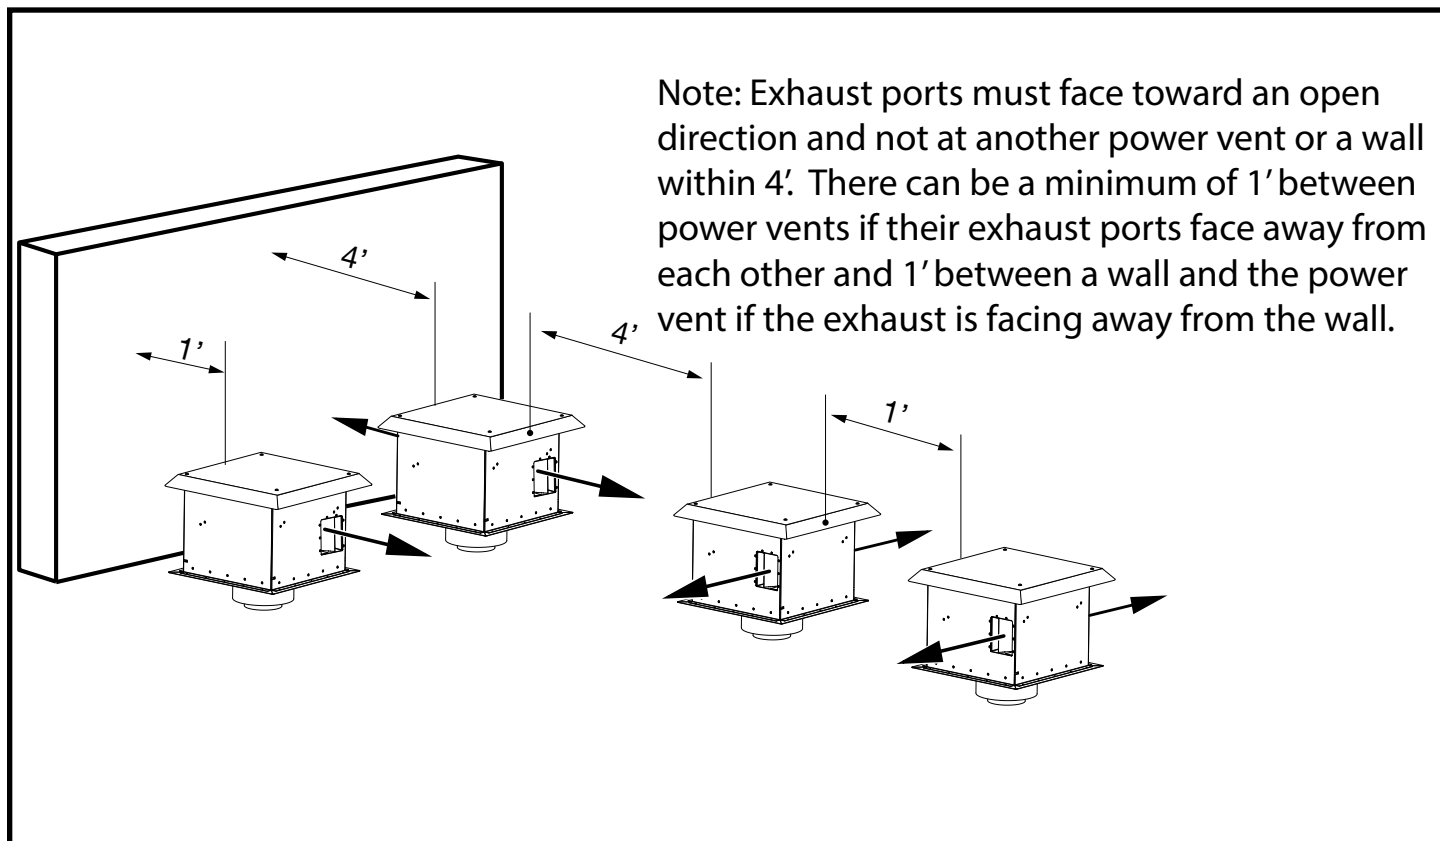

Figure 4: TCVT.PWVT Air exhaust clearances.
- Terminal casing: See Figure 4
Minimum clearances to the vent terminal must be maintained as shown in (Figure 4). Measure clearances to the nearest edge of termination hood.
3. Locate the power vent termination following the clearance to combustibles table, (See “Minimum clearances to combustibles Table” on page 7), venting configuration diagram and terminal location diagram (Figure 4 on page 7).